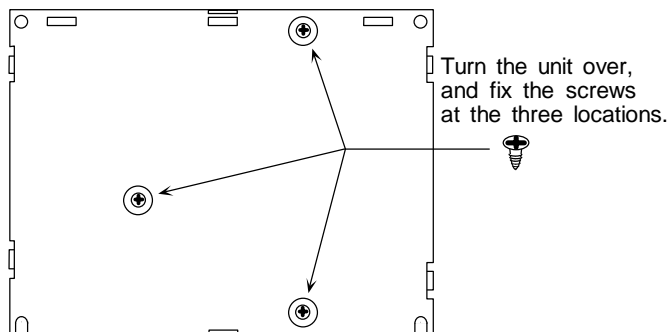

Fig. 5
5. Turn the unit over, and fix the screws at the three holes to the three spacer locations. (Fig. 5)